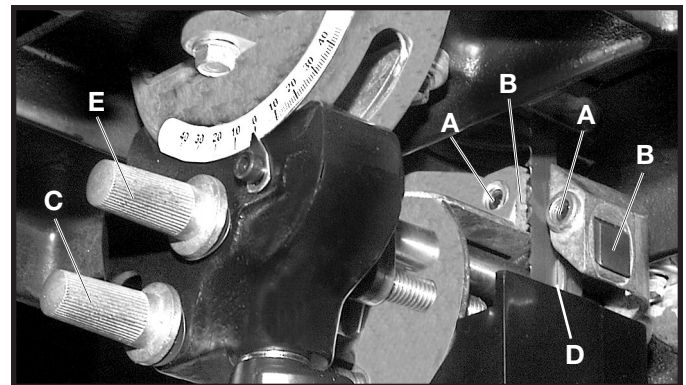

Fig. 56
2. Adjust the front edge of the guide blocks (B) Fig. 56 so that they are just behind the "gullets" of the saw teeth. Turn the knurled knob (C) Fig. 56 to make this adjustment. Check the support bearing (D) Fig. 56. It should not be touching the back of the blade.
3. Loosen the two screws (A) Fig. 56. Move the guides (B) as close as possible to the side of the blade, being careful not to pinch the blade. Tighten screws (A).
4. Turn the other knurled knob (E) to adjust the lower blade support bearing (D) Fig. 56 so that it is about  $1/64$ " behind the back of the blade.